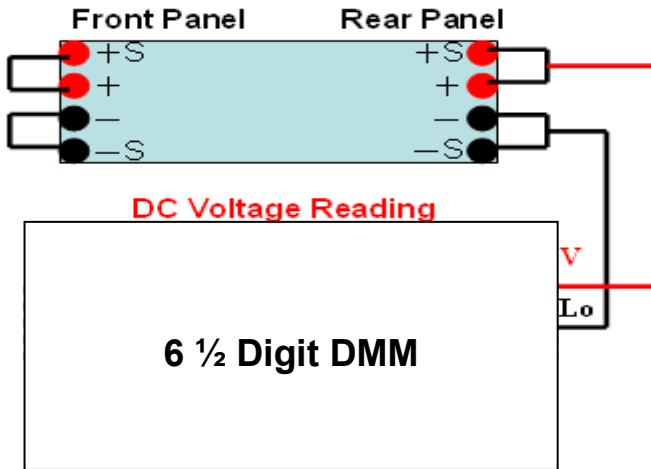

Figure 33- Voltage Calibration Setup
- If the maximum output current of the power supply is greater than the current limit of the DMM, then a current shunt must be used. The wire connections between the power supply and the DMM will be setup like Figure 33.
- Use the setup diagram shown in Figure 33 below for voltage calibration. Connect the rear output terminals of the power supply to the DMM.